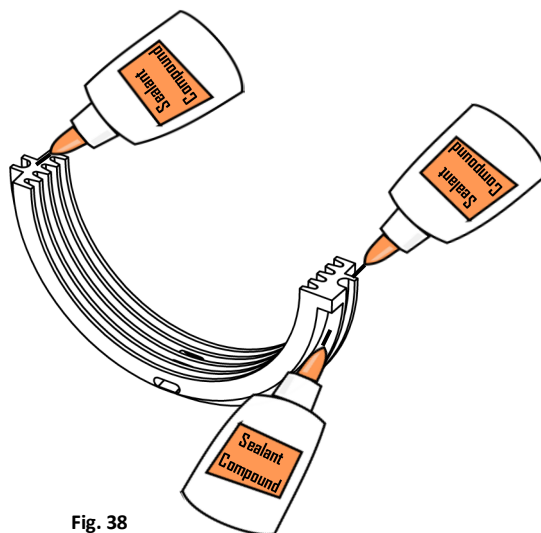

Fig. 38
- the surface of the split line and the exterior of the spring guide of the labyrinth seal. (fig. 38)